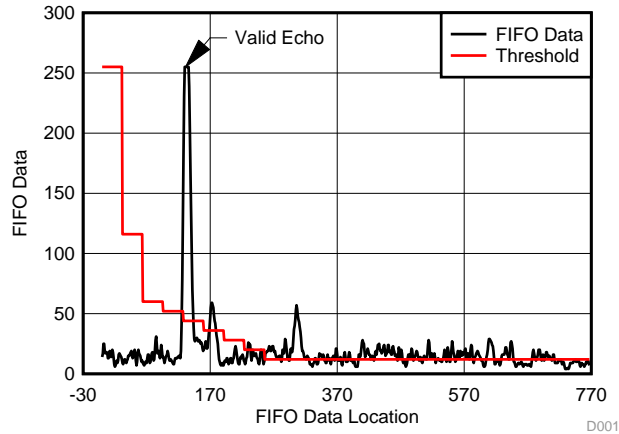

Figure 1. Example of a valid echo logged beyond the threshold
- Step 4. Echo data is stored in an external RAM of 768 bytes (FIFO_DATA from 0 to 767). A valid echo is determined by comparing the FIFO_DATA with the threshold level corresponding to the FIFO_DATA location. The threshold levels typically decrease as the FIFO_DATA location increases as nearer objects produce a stronger echo as compared to objects further away. Figure 1 shows a valid echo compared to the decreasing threshold levels.